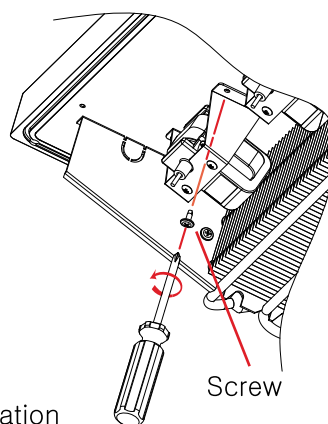

Fig 8-14
4. Remove the screws holding the motor in place. (Fig 8-14)